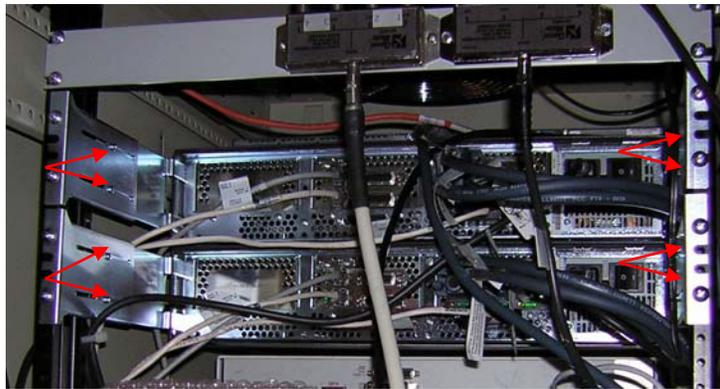

Figure 1: Adjusting Screws
5. Remove Router 1 from the rack. It is necessary to remove two small adjusting screws from the inner-side of each rear rack-mount support assembly (see red arrows in Figure 1) before removing the front rack-mount screws. Remove the rear support assembly last.